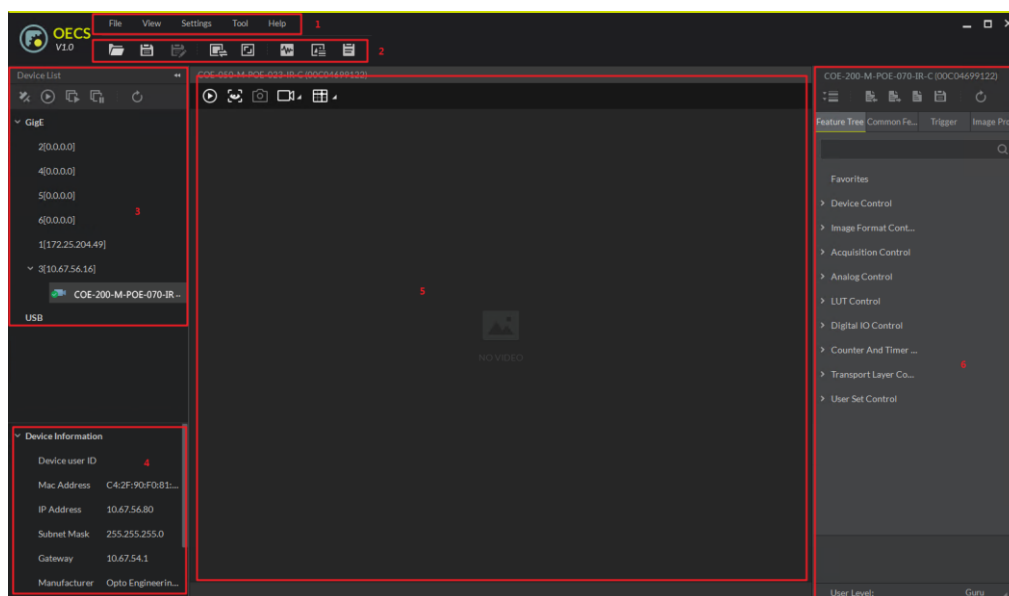

Figure 2-5 Main User Interface of the Client Software
1. Double click the OECS icon to open the client software. The main user interface and the description of the client software are shown in Figure 2-5 and Table 2-1.